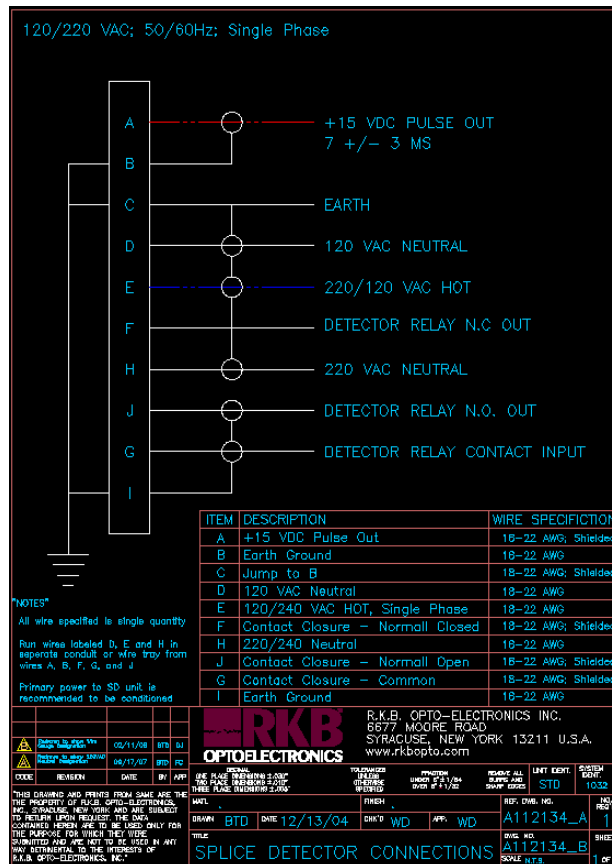

Figure 4 – Model 1032C Cabling Diagram
B. ELECTRICAL INSTALLATION *(figure 4)*.